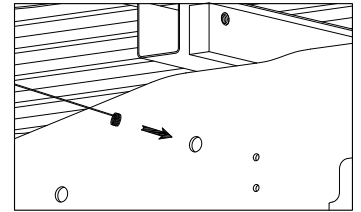
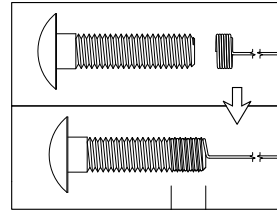
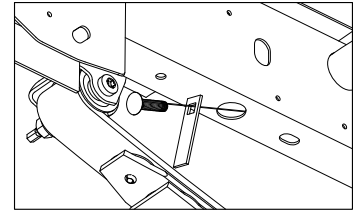

FIGURE C2: View from outside of Driver Side Frame.
FIGURE C3: fish wire diagram.
FIGURE C4: View looking up at rear of driver side frame
2. **Fish carriage bolts through frame.** A fish wire will be required to install the 1/2" X 2" Carriage bolts which hold each sideplate in place. Start by locating the mounting hole in the side of the frame, shown below in figure C2. Feed the coiled end of the fish wire through the hole until it is visible in the 1-1/2" hole near the back of the frame as shown in figure C4. Attach a locking strap and the 1/2" X 2" carriage bolt to the fish wire as shown in figures C3 & C4. The locking strap should not be inserted into the bolt while passing through the frame. Once attached, carefully pull the fish wire back through the frame. Pull the carriage bolt out of the hole in the frame, ensure that the carriage bolt has been pulled all the way through the locking strap and the bolts rotation is restricted.